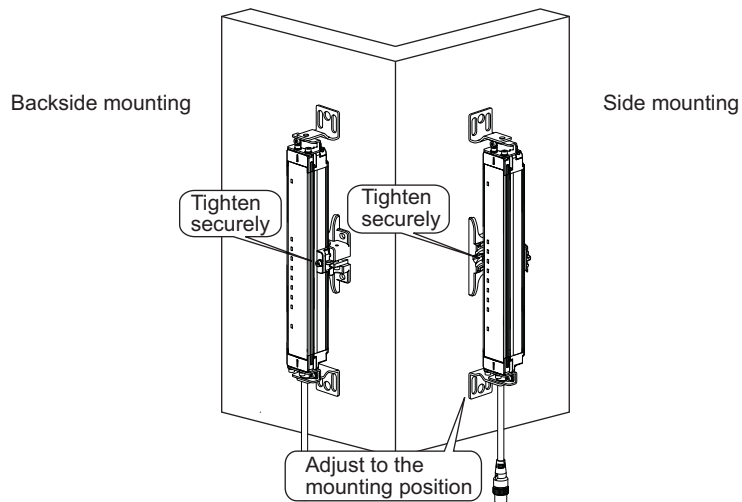

Figure 10
4. Position the Top/Bottom Brackets and the Intermediate Brackets to the mounting location on the wall and tighten the hexagon socket head cap screws (M3 x 12). (Figure 10)